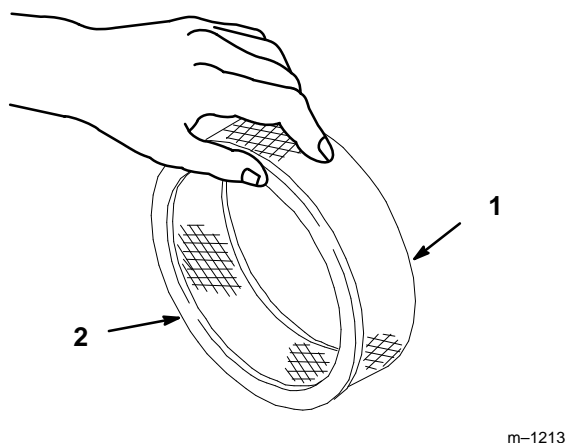

Figure 25
- A. Lightly tap the element on a flat surface to remove dust and dirt (Fig. 25).